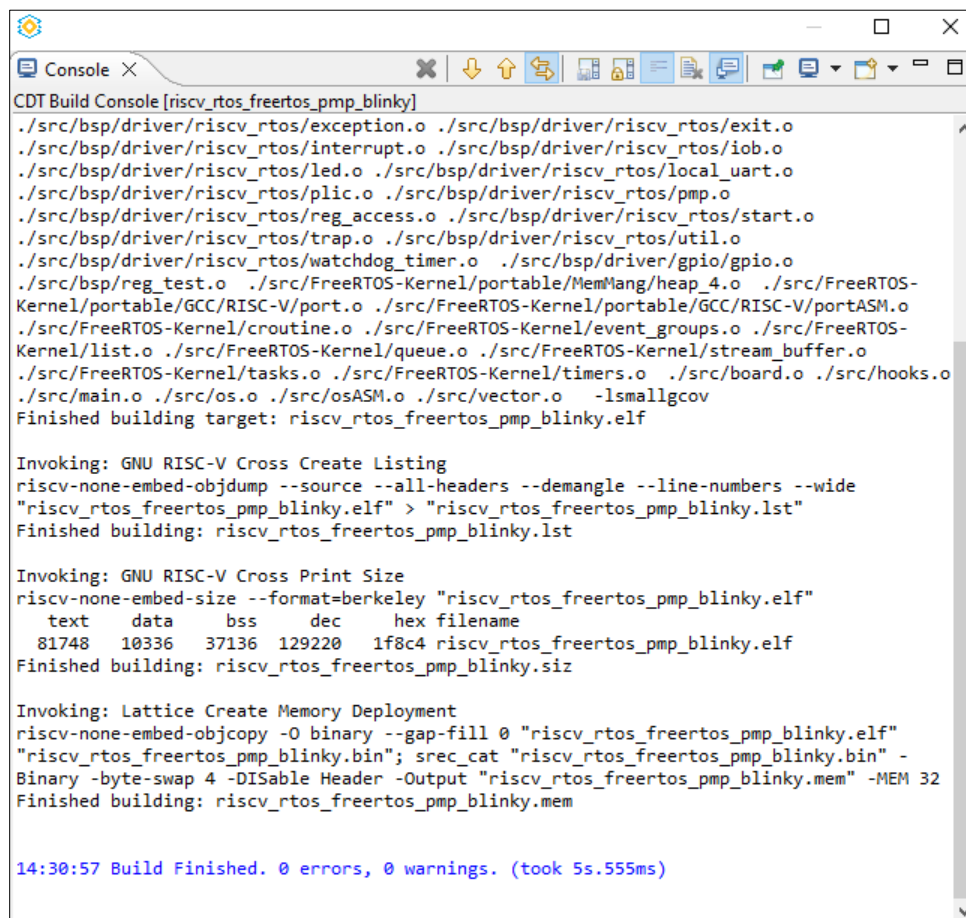

Figure A.15. Build Project Console 2
8. Re-build the C project. You can see the correct build log (Figure A.15).